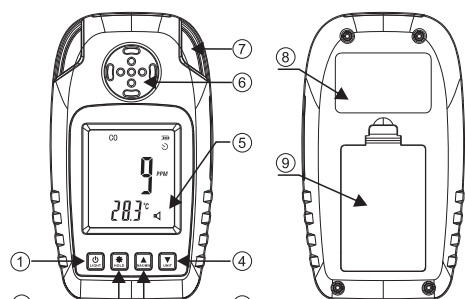

Figure 2
E. Name of Each Component (Figure 2)